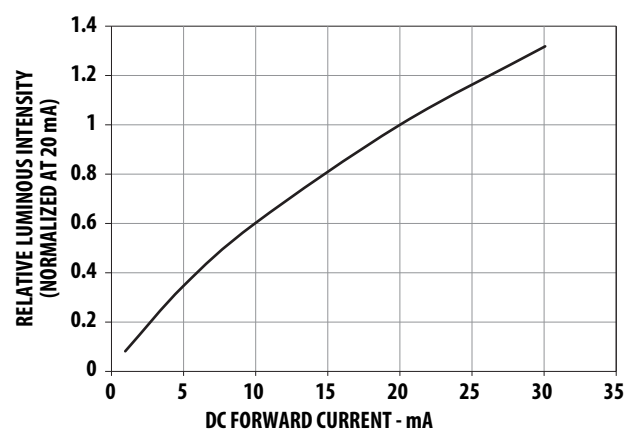

Figure 5: Maximum Forward Current vs. Ambient Temperature
- Derate linearly as shown in Figure 5.